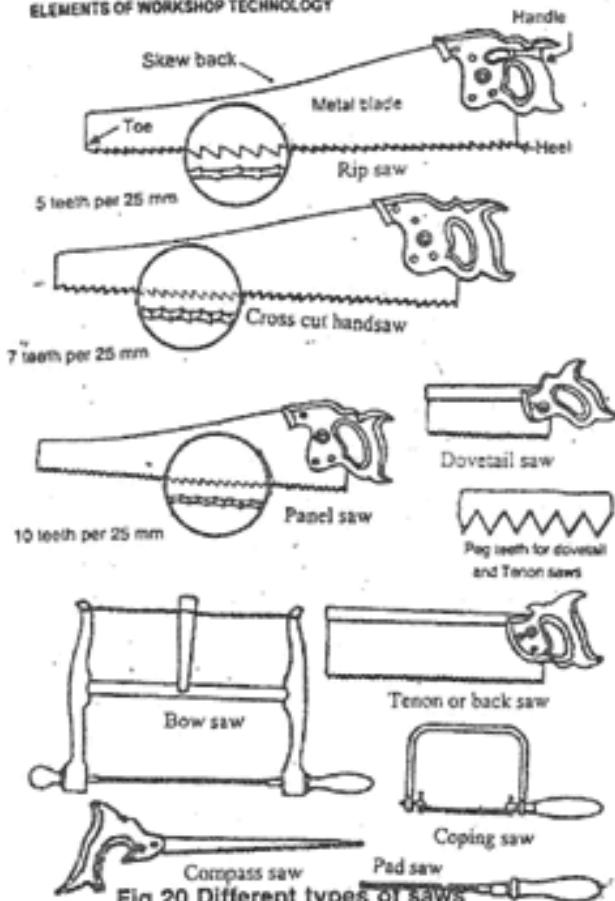

Fig 20 Different types of saws
**Saws.** The saw is probably the most abused of woodworking tools, chiefly because inexperienced users force it too much. When cutting across the grain, a different action is required from the saw teeth than when ripping with the grain. Therefore, different types of saws are used, as one type cannot do both jobs successfully. A saw is generally specified by the length of its blade measured along the toothed edge, and pitch of teeth length of its blade measured along the toothed edge, and pitch of teeth, expressed in millimeters. Fig. 20 shows the different types of saws in common use.